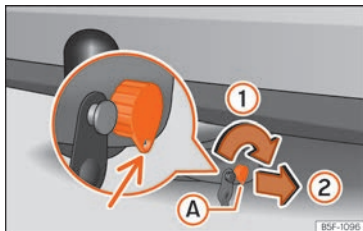
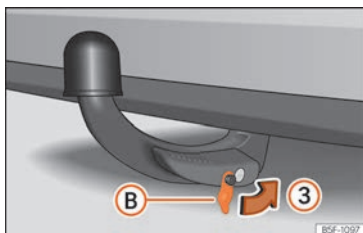

Fig. 256 Locking the lock.
Fig. 257 Placing the cover over the lock.
- Turn key (A) in the direction of arrow (1) until the part of the key with the holes reaches the bottom position » Fig. 256.
- Remove the key in the direction of arrow (2).
- Place cover (B) in the lock in the direction of arrow (3) » Fig. 257 » 1.